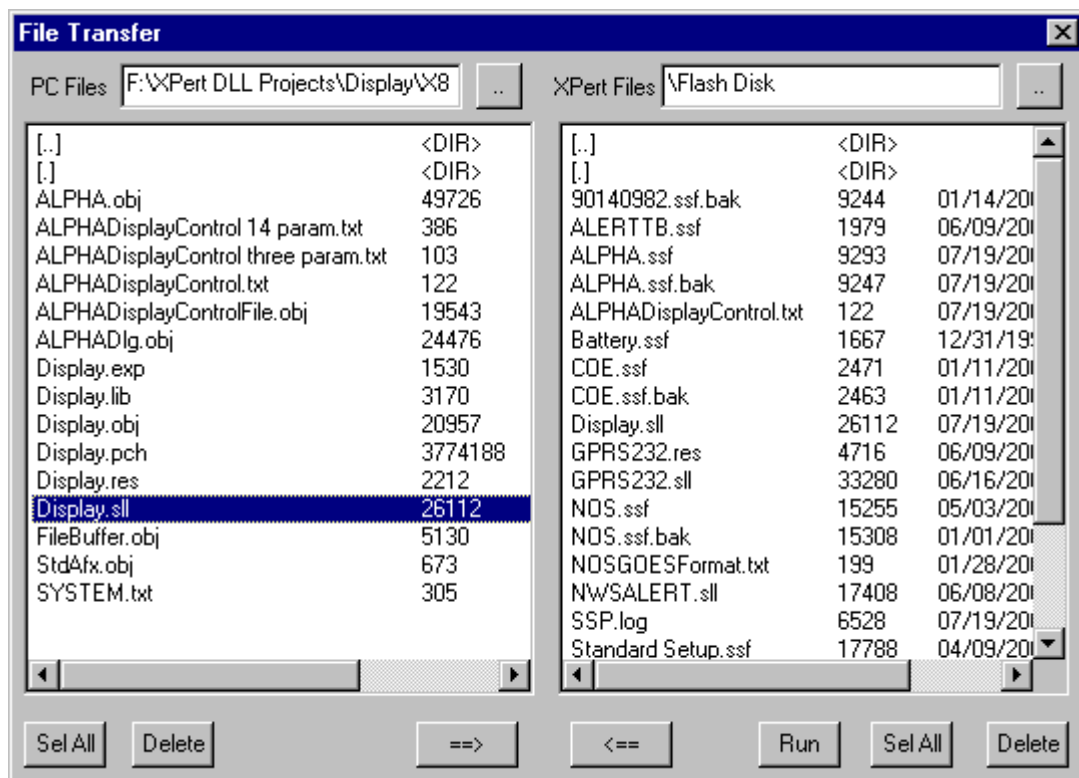

Figure 1: XTerm File Transfer Window
3. Press the File Transfer button. The File Transfer window is illustrated in Figure 1.